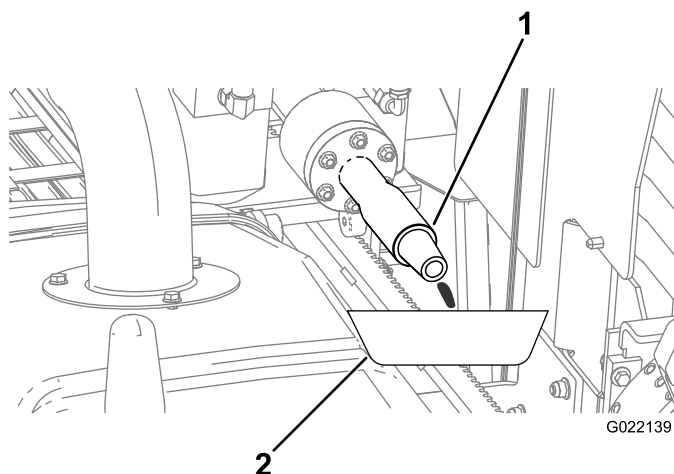

Figure 151
- B. Place a drain pan under the drill spindle for the leaked antifreeze (Figure 151).
D. When the antifreeze comes out of the drill spindle (Figure 151), turn the pump off.